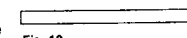

Fig. 18.
- 4 Using Δ or ∇ , select the programme position which you want to skip and press OK. The «SYSTEM» position changes colour. (See Fig. 18.)
- 5 Press Δ or ∇ until --- appears in the SYSTEM position. (See Fig. 18.)